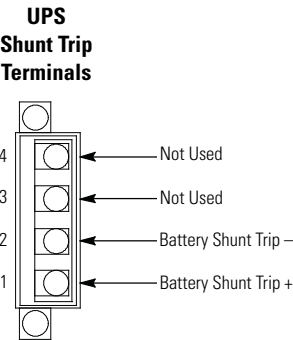

Figure 4-17. Battery Shunt Trip Terminal Assignments
11. Connect the wiring to the battery shunt trip terminals. See paragraph 3.2.4 and Table 4-3 for wiring and termination requirements, and Figure 4-17 for terminal assignments.